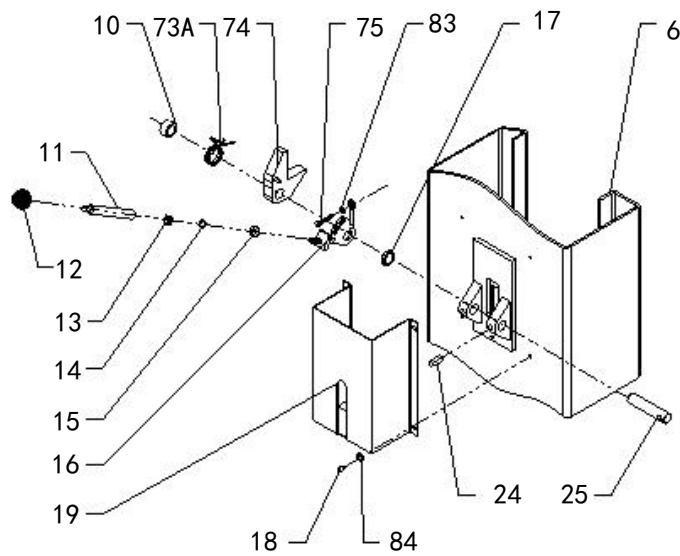
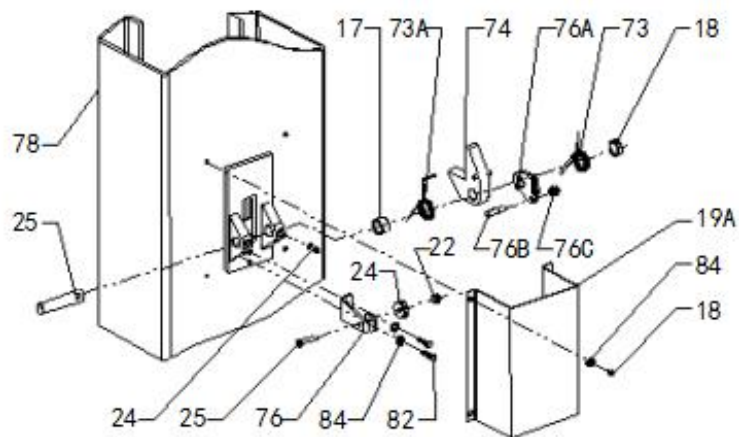

Fig. 22 Power-side Safety Device
Fig. 23 Offside Safety Device
J. Install safety device (See Fig. 22 & Fig. 23).